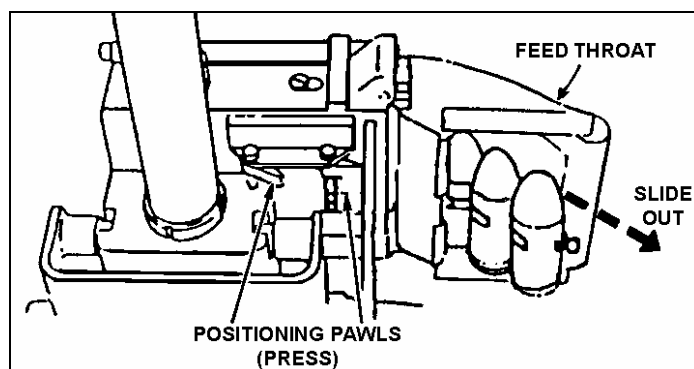

Figure 2-8. Removal of linked rounds from feeder.
(3) Take the ammunition from the feed tray by reaching beneath the feed tray and pressing the primary and secondary positioning pawls. While pressing the position pawls, slide the linked rounds out of the MK 19 through the feed throat (Figure 2-8).